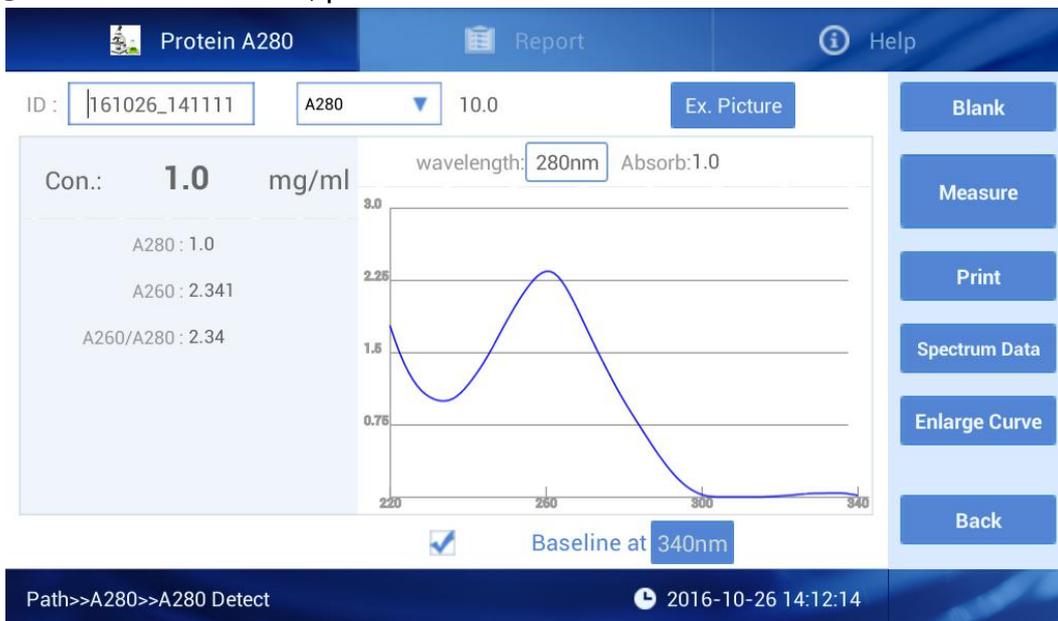

Fig 4.10 Result of Protein measurement
① Set the batch NO. and Nucleic Acids type;
- ② Clean the upper and lower pedestals with dust proof paper, input the 2ul buffer solution to make blank;
- ③ Clean the buffer solution on the ower pedestals with dust proof paper;
- ④ Measure sample with volume of 2ul. Click “Measure” and then enter the interface as Fig 4.10;
Notes: Measure the sample as soon as you load the sample on the pedestal, if users need save the curve graph, click “save”, so that user can check the curve in report as Fig 4.10.